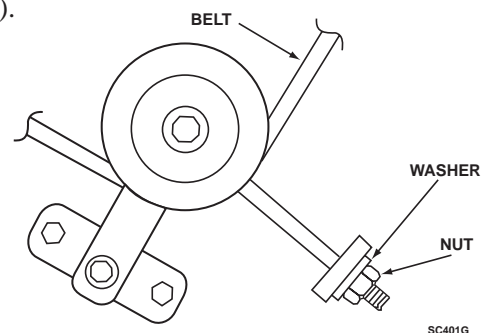

Figure 2. Cutter Deck Belt Adjustment R.H.
- Adjust the RH blade drive belt using a belt tension gauge. Adjust the belt so that the belt moves 1/2" with 10 pounds of pressure. Adjust the tension by tightening or loosening the J-bolt nut. (See Figure 2 & 3).